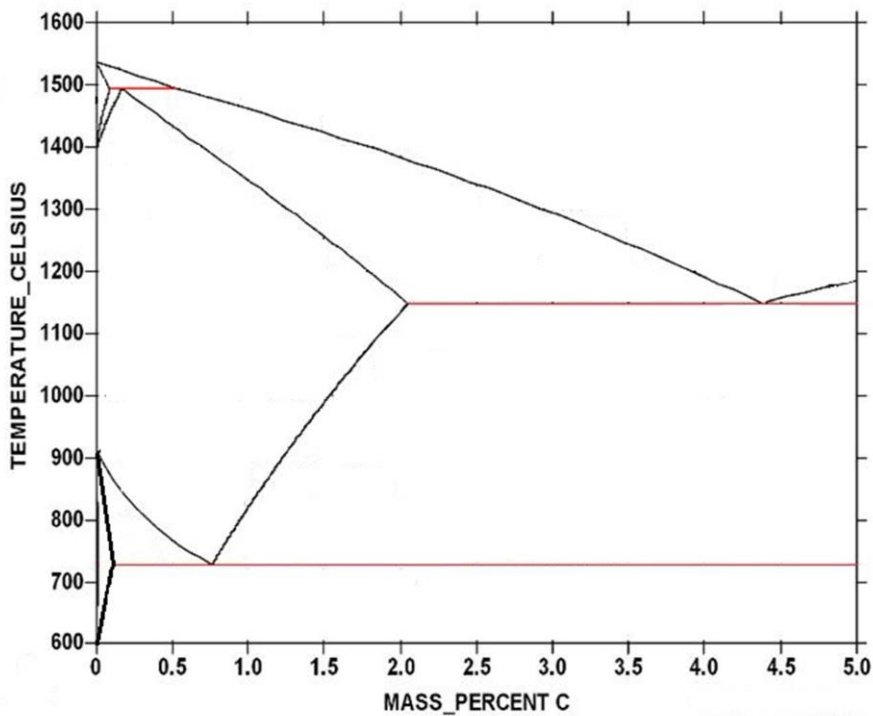

Figure 3: Iron-Carbon Phase Diagram Skelton
7. The Figure 3 shows the Skelton of the Iron-Carbon equilibrium phase diagram. Draw the complete figure representing the α , γ , δ and Cementite phases present in different parts of the figure, along with the various two-phase regions present in the diagram and the temperatures. Mention the three Invariant reactions taking place in Fe – Fe₃C Phase Diagram along with the reaction temperature and the composition of each phase present in the reactions.